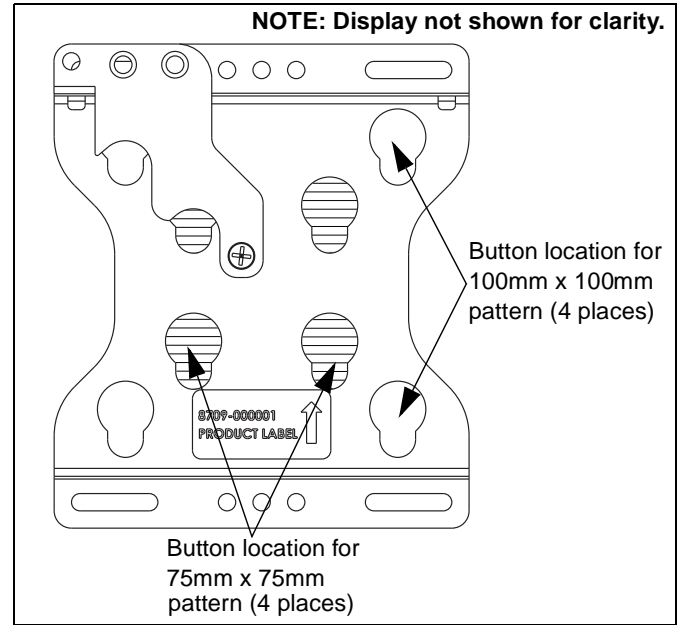

Figure 9
NOTE: Example shows mounting display in the 100mm x 100mm pattern. FSR1U/FSR100 assembly (A) will also accommodate a 75mm x 75mm pattern. (See Figure 9)